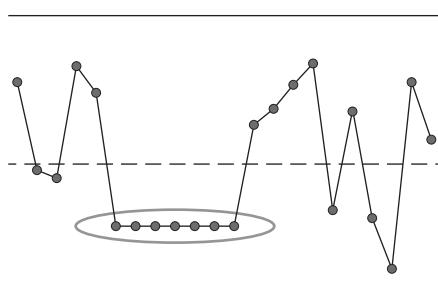

Figure 9.12 Control chart showing “stuck” process.
- **Stuck.** Seven or more points in a row having exactly the same value (Figure 9.12). Measurement device may be stuck, or operator may be rounding to the next whole number.